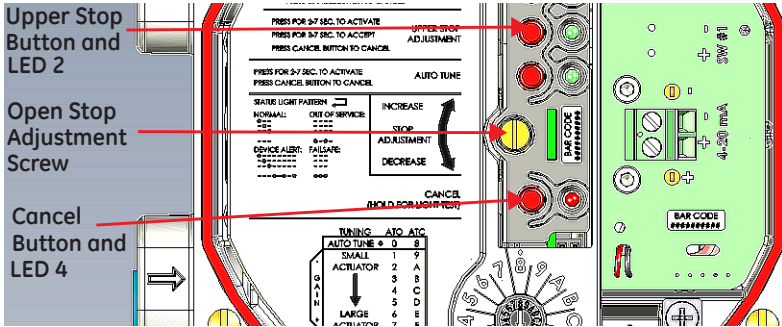

Figure 21 Open Stop Adjustment Screw
2. Move the valve to the desired location via the *Open Stop Adjustment Screw* (Figure 21).